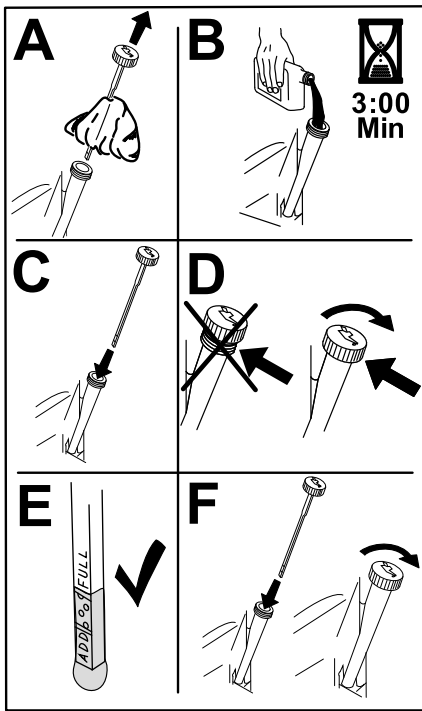

Figure 38
5. Slowly pour approximately 80% of the specified oil into the filler tube and slowly add the additional oil to bring it to the Full mark (Figure 38).
3. Fill the crankcase with the proper type of new oil (Figure 38).